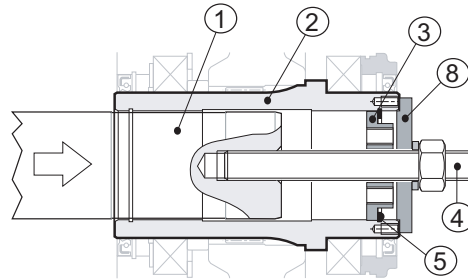

Fig. 15
Now insert the plate (pos. 3) then the inner retaining ring (pos. 5) into their relative seats and tighten the threaded bar to bring the two shafts tight against each other (see Fig. 15 (p. 26)).